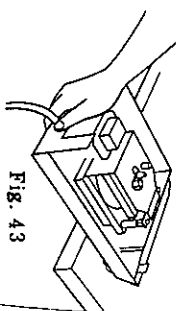

Fig. 43
Hold the assembly by one hand as shown in Fig. 43 without tilting it; then secure it at four points with (59) (SCREW 4 x 15), (27) (SPRING WASHER 4mm) and (67) (WASHER 4mm).